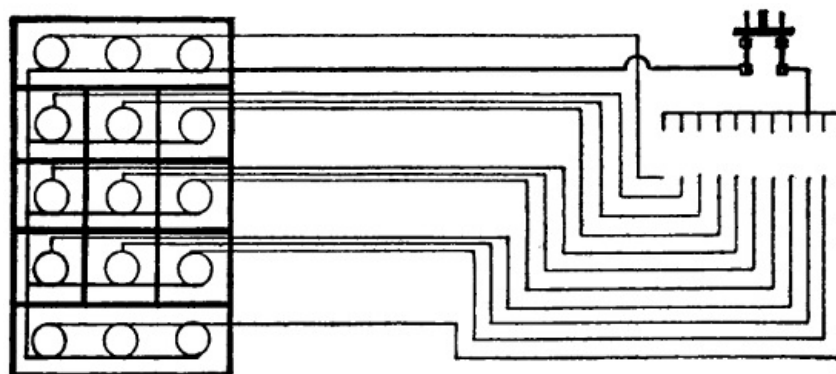

FIGURE 169.
*Program Board.*—A simple form of program board is shown in Figure 169. Except at the top and the bottom, where three lamps are shown together in one compartment, each lamp is incased by itself. In front of the lamps is usually colored glass, bearing numbers or letters. The lamp behind any number being turned on, that number becomes visible. The top and bottom are usually labeled, "Special", or "Extra".